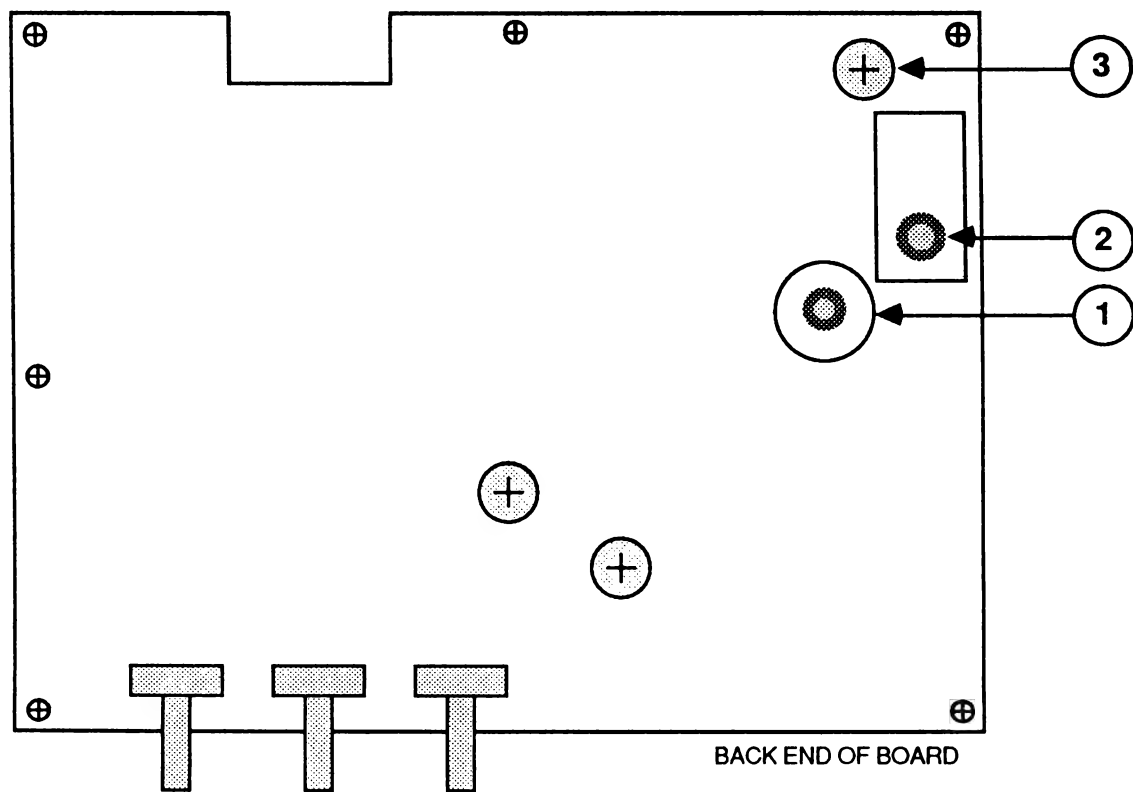

**FIGURE 14**
1. If the picture on the tube is not locked and centered, or if it is tearing, adjust pot R406 (see Figure 14, #3). Be careful on this adjustment, as you will be physically close to the anode and anode lead in reaching the pot.
4. **Linearity:** In most units, the coil L402 (see Figure 14, #2) will be preadjusted and sealed at the factory and you won't be able to change it. In this case, proceed to step 5 and see if the width adjustment will help the linearity. If you do have a unit with an adjustable coil, use the square plastic adjustment tool and turn it until the linearity looks correct. If you have adjusted the coil as far as it will go and the linearity is still wrong, proceed to the width adjustment, step 5.
5. **Width:** Check the width of the image on the screen. If it looks too narrow or too wide, then use the hex adjustment tool and adjust L401 (see Figure 14, #1) until the desired width is obtained. The image should be an equal distance (approximately 1/2 inch) from each side of the screen, and yet not squeezed together. If the linearity is wrong on one side, this adjustment might correct it. Remember that this is not a centering adjustment; don't squeeze the image just to get it centered.